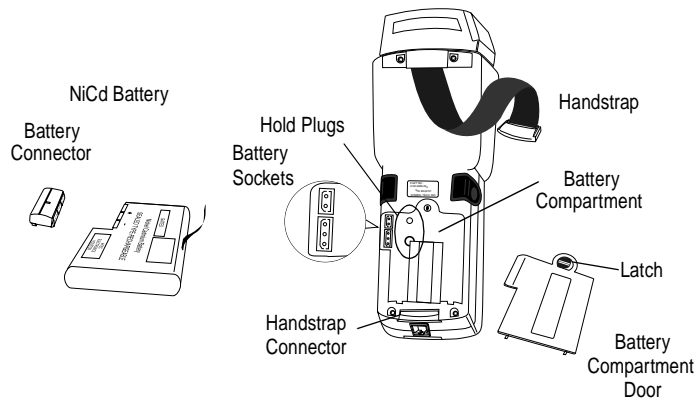

Figure 6-2. PDT 3100 Battery Replacement
3. Plug the 9V connector in the 9V socket (refer to Figure 6-2).
5. Plug the battery connector in the rechargeable battery socket immediately below the 9V socket (refer to Figure 6-2).